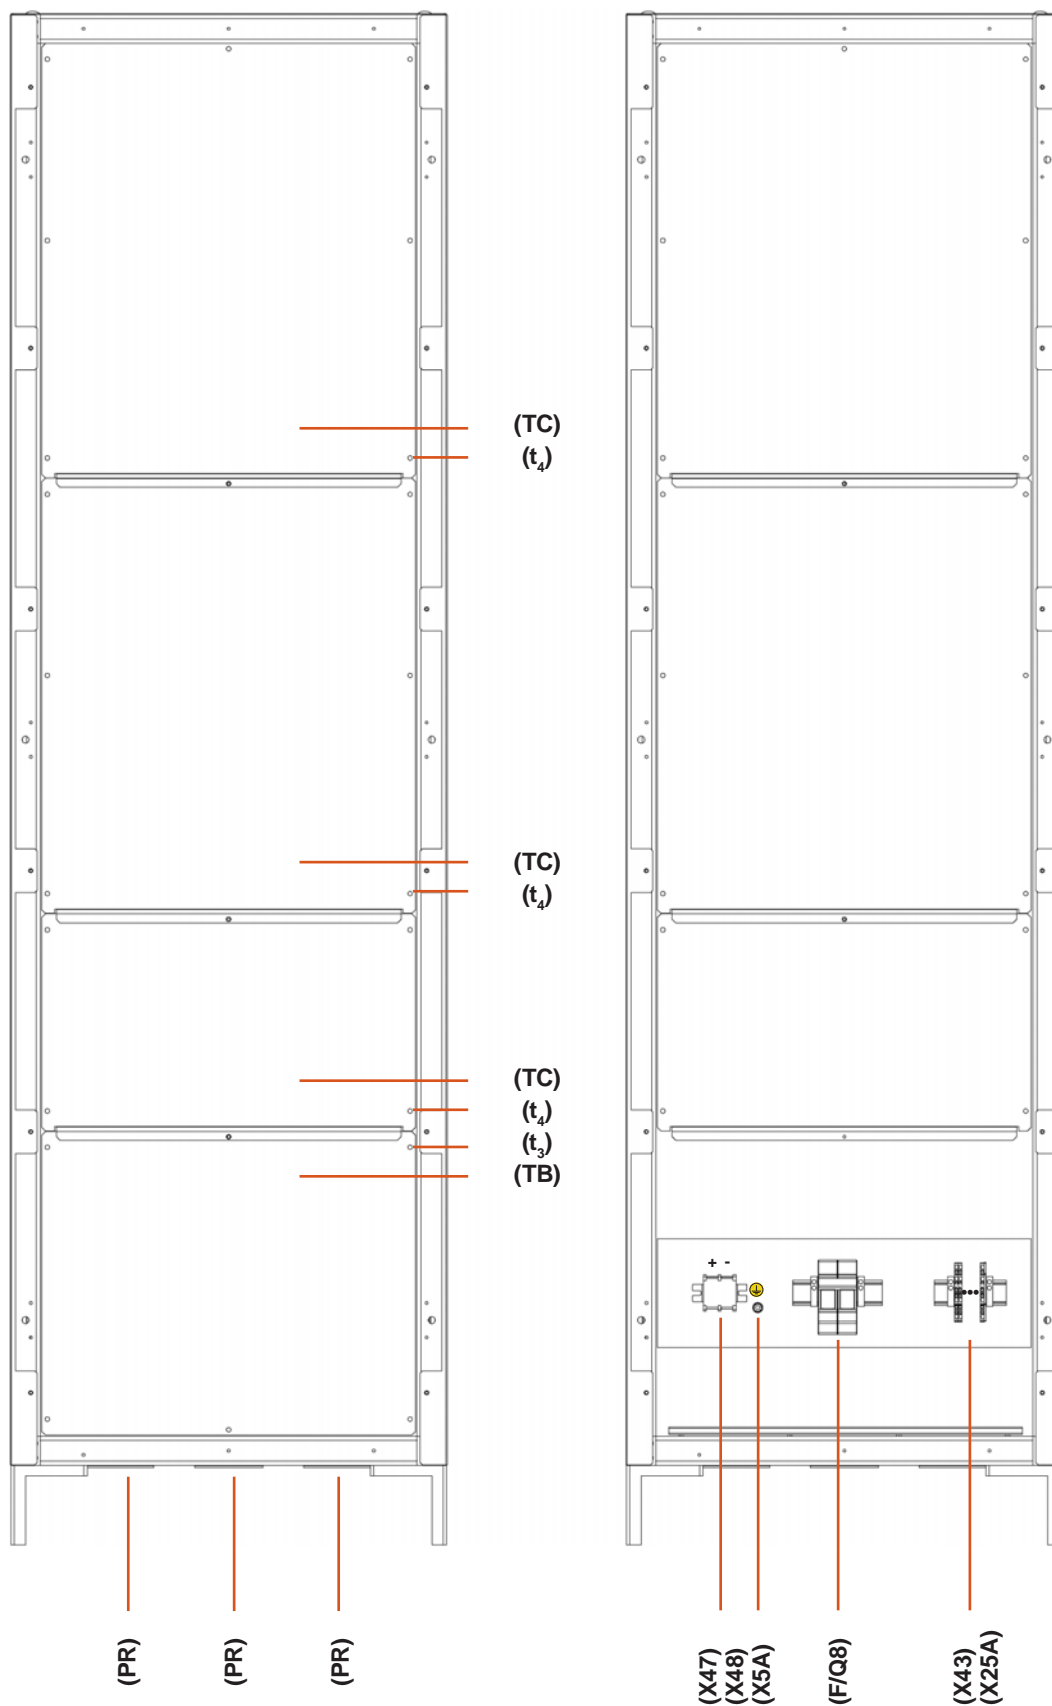

Fig. 11. Front view of 605x605x2115 mm battery cabinet.
- 2005 mm battery cabinet height, with additional levelers feet of 110 mm, so the total height will be 2115 mm. It is available in 600x600, 600x800 and 800x800 mm cabinet base dimensions (See Fig. 11 and 12).